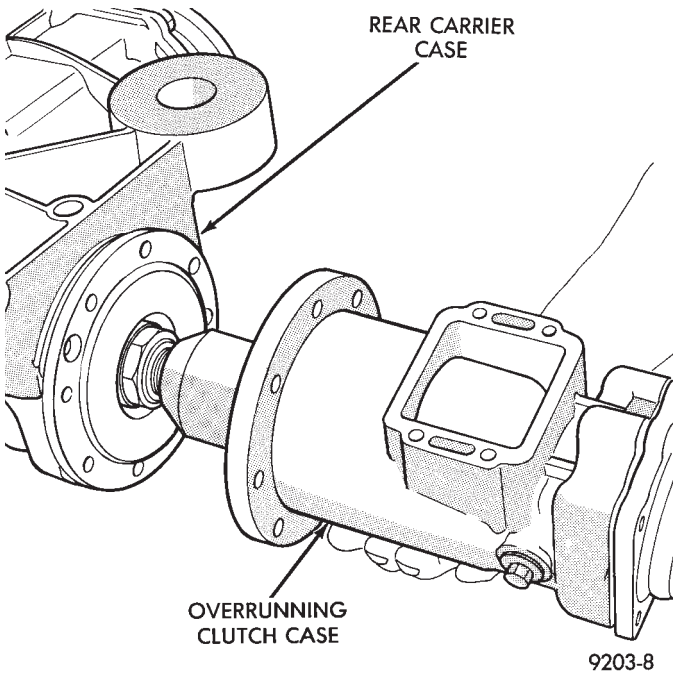

Fig. 4 Separate Rear Carrier case from overrunning clutch case
- (6) Separate overrunning clutch case from differential carrier case (Fig. 4).